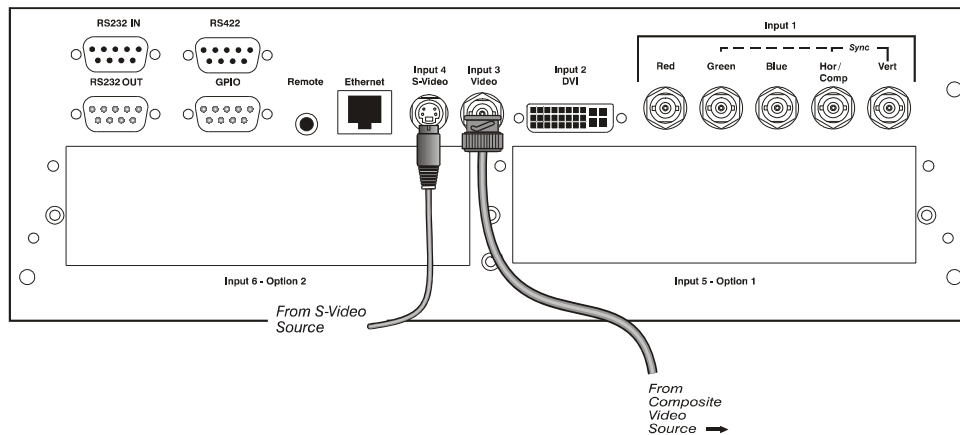

Figure 2-30 Connecting Composite Video
**INPUT 3** and **INPUT 4** provide simultaneous connection of both a composite video source (**INPUT 3**) and an S-Video source (**INPUT 4**). Refer to Figure 2-30.